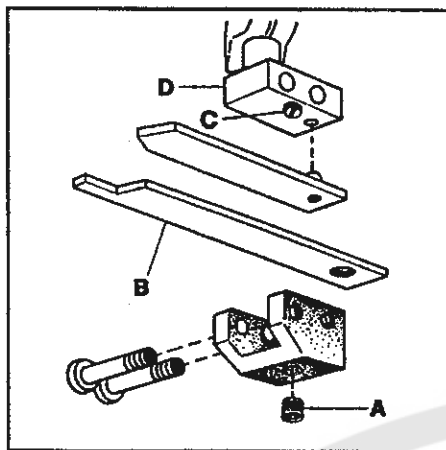

FIG. 29
If necessary loosen screw (A, Fig. 29) and move knife (B) to the right or left as required. Tighten screw (A).
If the shear angle between the knives has to be changed, raise or lower screw (C, Fig. 29) in knife holder shank (D).